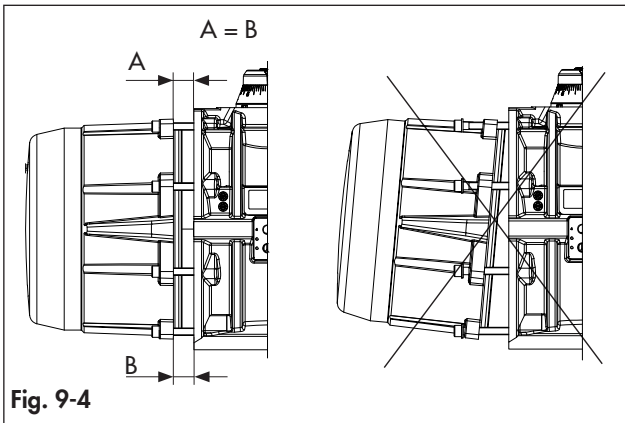
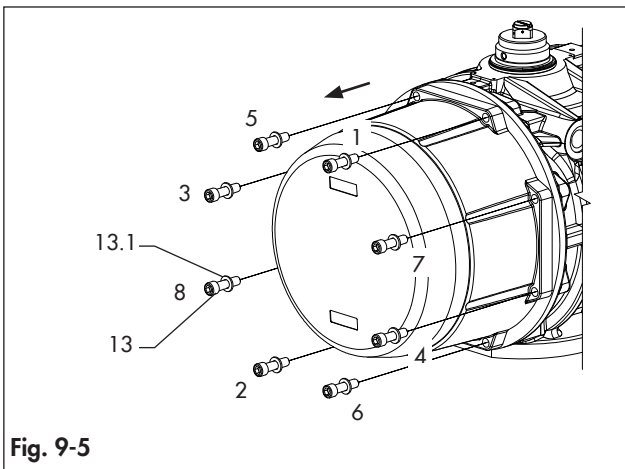
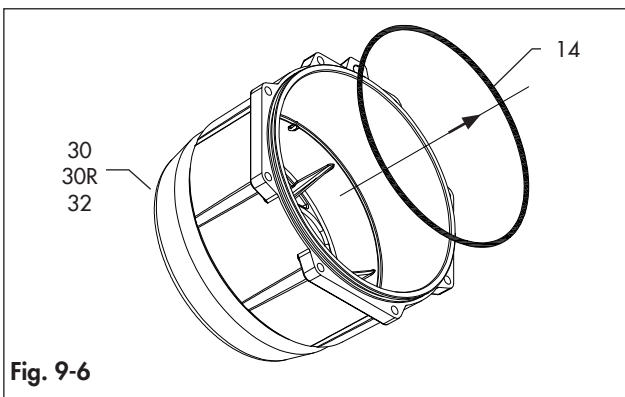

Fig. 9-4
Fig. 9-5
Fig. 9-6
Refer to Fig. 9-1, Fig 9-4, Fig 9-5 and Fig. 9-6.
- ➔ Remove the end caps as shown in Fig. 9-4 keeping a constant distance (A = B) between the actuator body and the end cap interface.
- ➔ Observe the specified sequence shown in Fig. 9-5.
- Release the springs compression by partially unscrewing each end cap screw (13) 1 turn at a time as per the sequence shown in Fig. 9-5 for 4/5 turns.
- Completely unscrew and remove the end cap screws (13) and washers (13.1).
- Remove the spring cartridges (17).
- Remove the o-rings (14). (Fig. 9-6)
- Unscrew completely the end cap screws (13) and washers (13.1) as per the sequence shown in the Fig. 9-5.